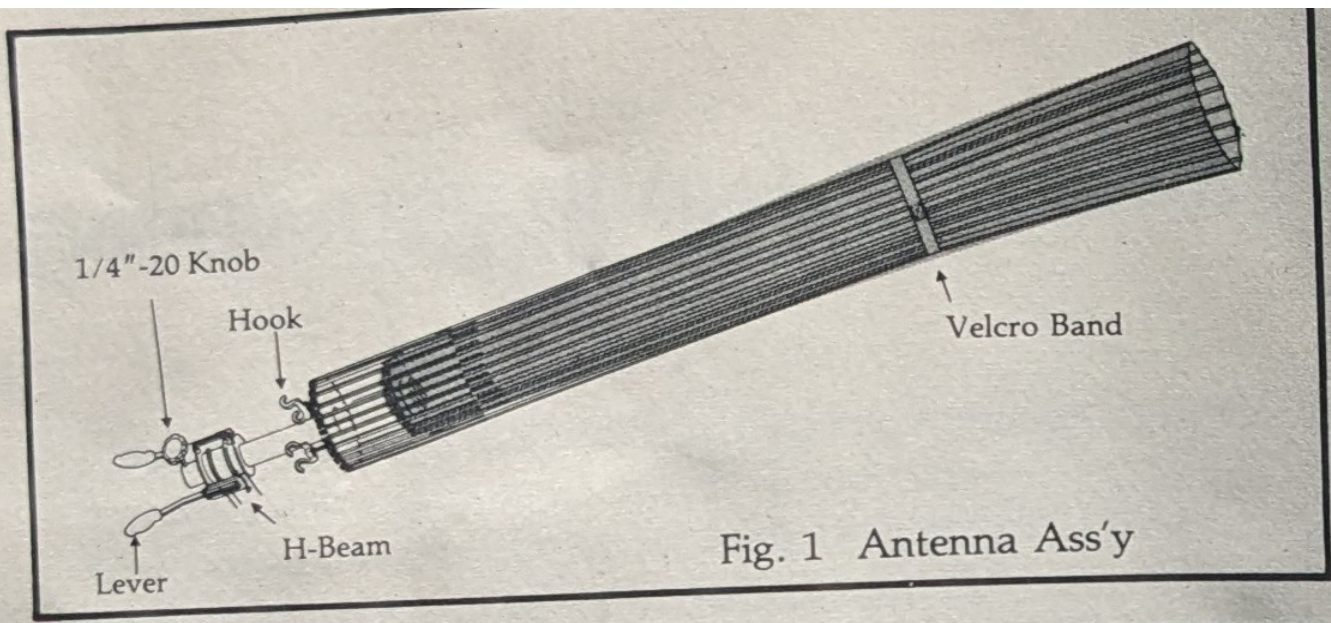

Fig. 1 Antenna Ass'y
1. One(1) Antenna Assembly (Fig. 1)